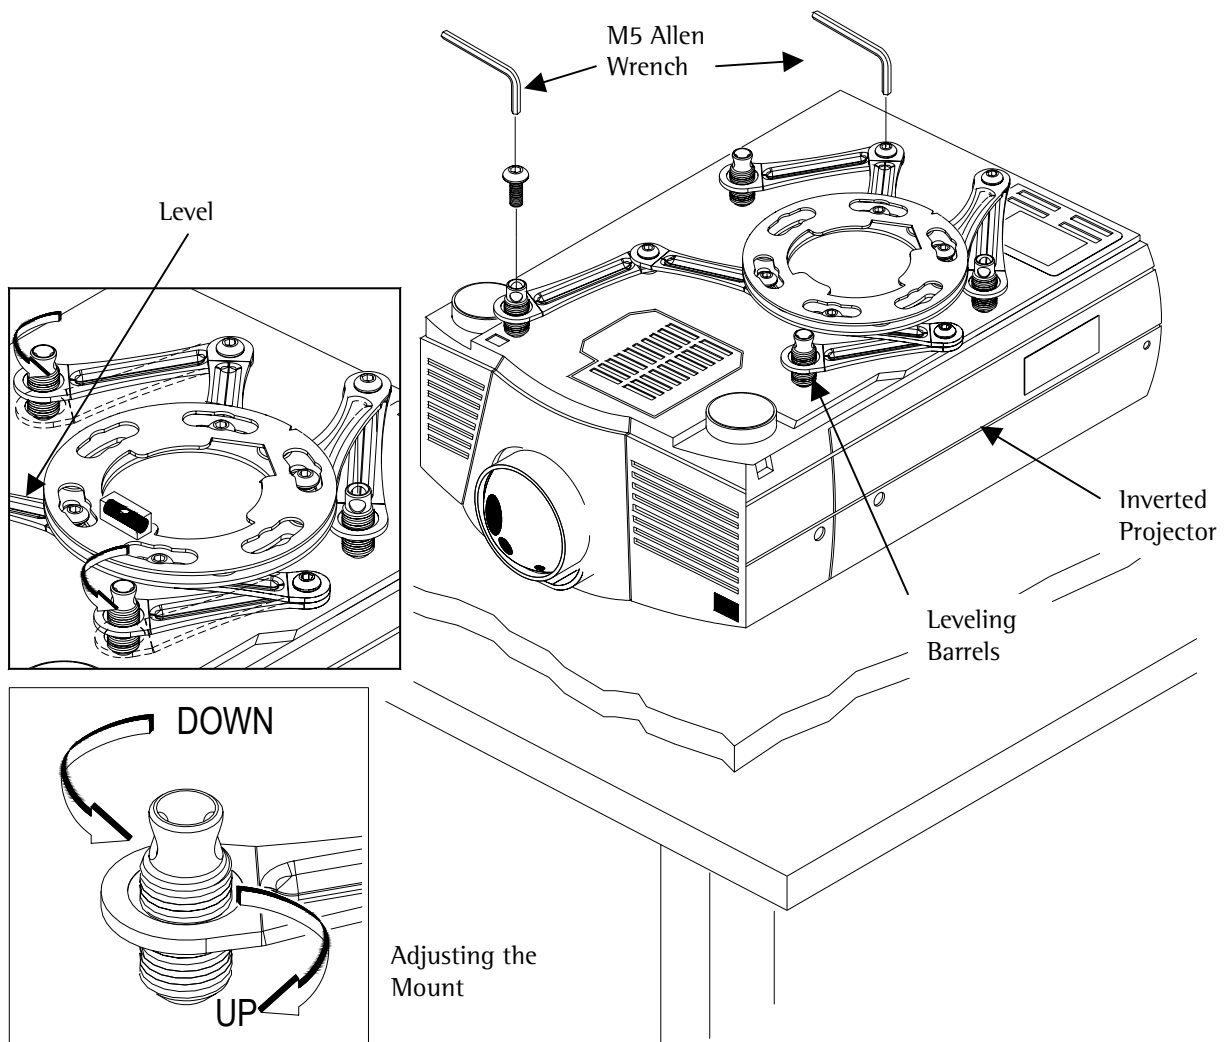

Figure 4. Leveling the Mounting Bracket
3. When the desired position is achieved, tighten the mounting screws to the projector and then tighten the hex head leg screws with the M5 Allen wrench (Figure 4).